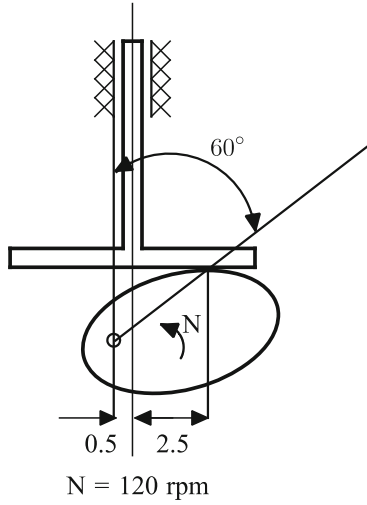

Fig. 2.48 A cam-follower mechanism
12. According to Fig. 2.48, the ascent velocity of the follower at the shown moment in centimeters per second is equal to $N = 120$ rpm, and the dimensions are in centimeters.